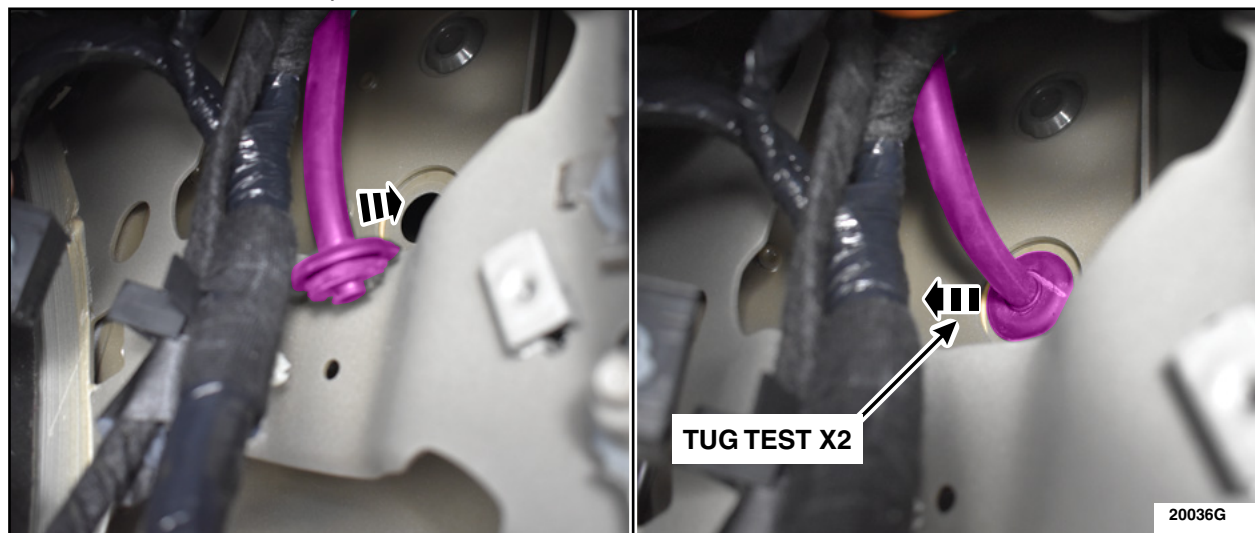

FIGURE 7
- Did the drain tube and grommet remain in place? See Figure 7.